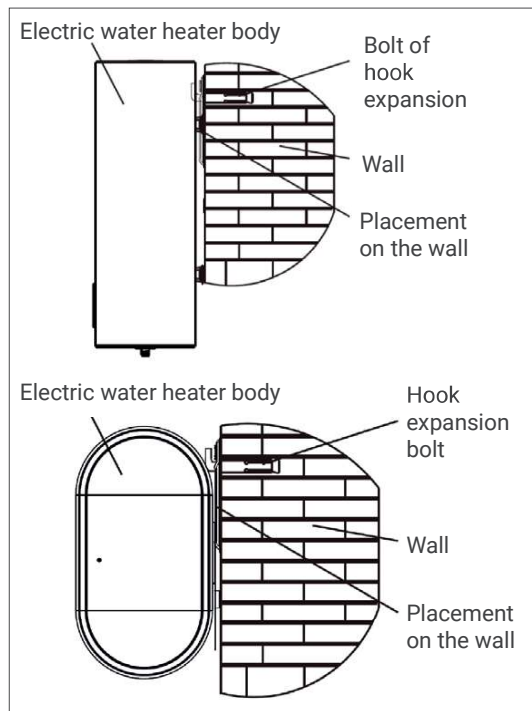

Fig.3
4. Under normal use, the handle of the safety valve (Fig. 3) should be opened regularly to remove calcium carbonate deposits. The method is: pull the discharge handle upward to the horizontal position (if the handle is equipped with screws, remove the screws with a screwdriver before performing this action), and confirm whether the safety valve is blocked (if there is water discharge). If it is blocked, contact the maintenance department.